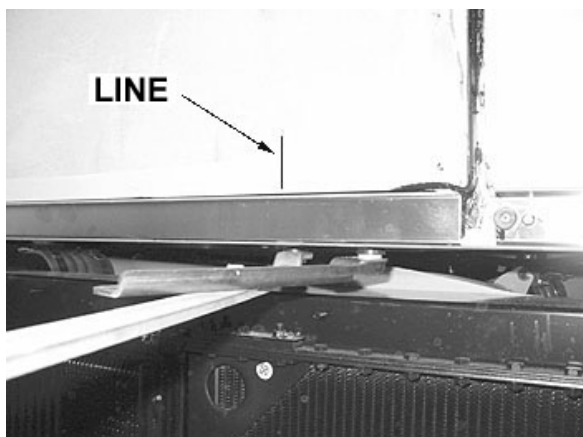

FIGURE 62: REFERENCE LINE
- Using a rubber mallet, adjust the lower part of pantograph arm in order to get 4 ± 1 mm between lateral panel and engine door (Refer to Figure 62 and Figure 63).